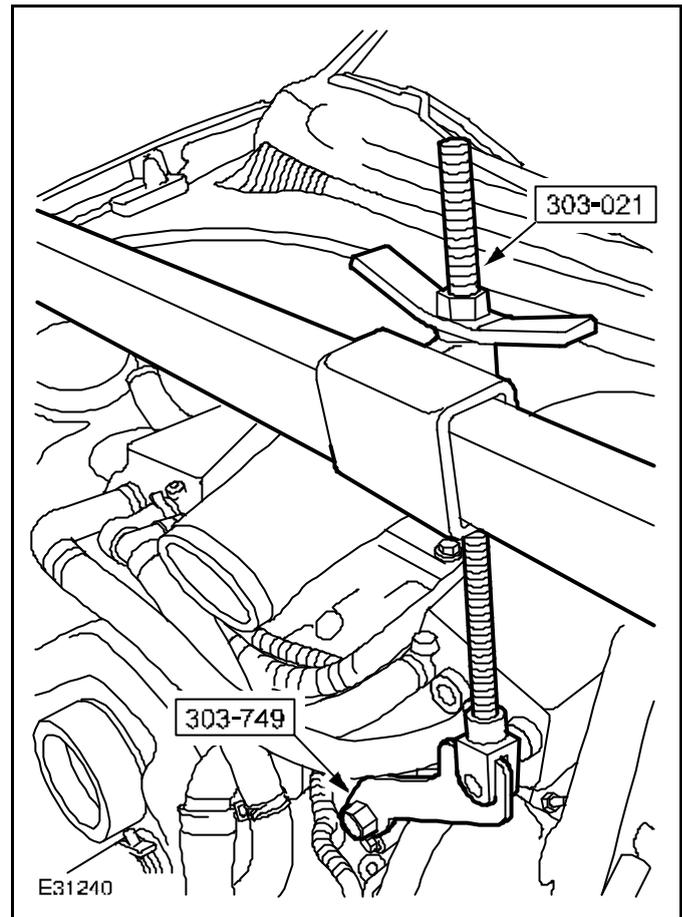

Fig. 13
- 26 Remove the engine support bracket, special tool number 303-021 (see Fig. 13).